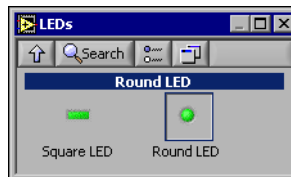

Figure 2-4. LEDs Palette
1. From the **Controls** palette, select the round LED indicator on the **LEDs** palette, shown in Figure 2-4, and place it on the front panel to the left of the waveform graph.